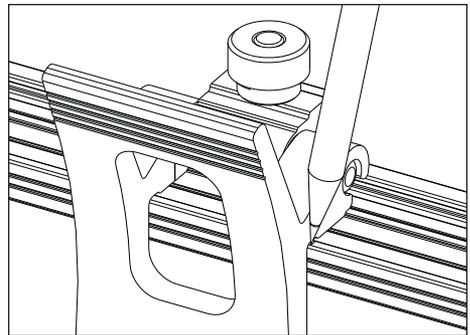

Figure 2: Marking the track.
4. Using a pencil, mark the location of the stop arm on the track in front of the tape pocket, as shown in **Figure 2**.